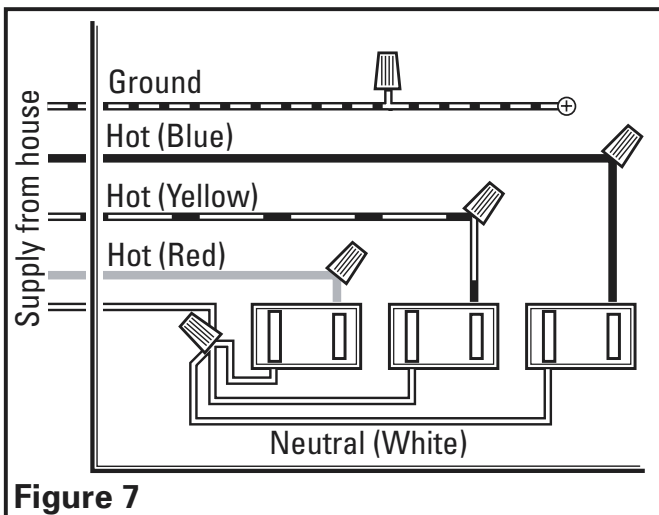

Figure 7
2. Connect the White wire from the house to the three White wires from the fan. Connect one Hot (Blue) wire from the wall switch to the Blue wire from the fan (this is the fan control). Connect second Hot (Red) wire from the wall switch to the Red wire from the fan (this is the heat control). Connect the third Hot (Yellow) wire from the wall switch to the Yellow wire from the fan (this is the light control). Connect the ground wire from the house to the Green wire from the fan (**Figure 7**). Use approved methods for all connections.